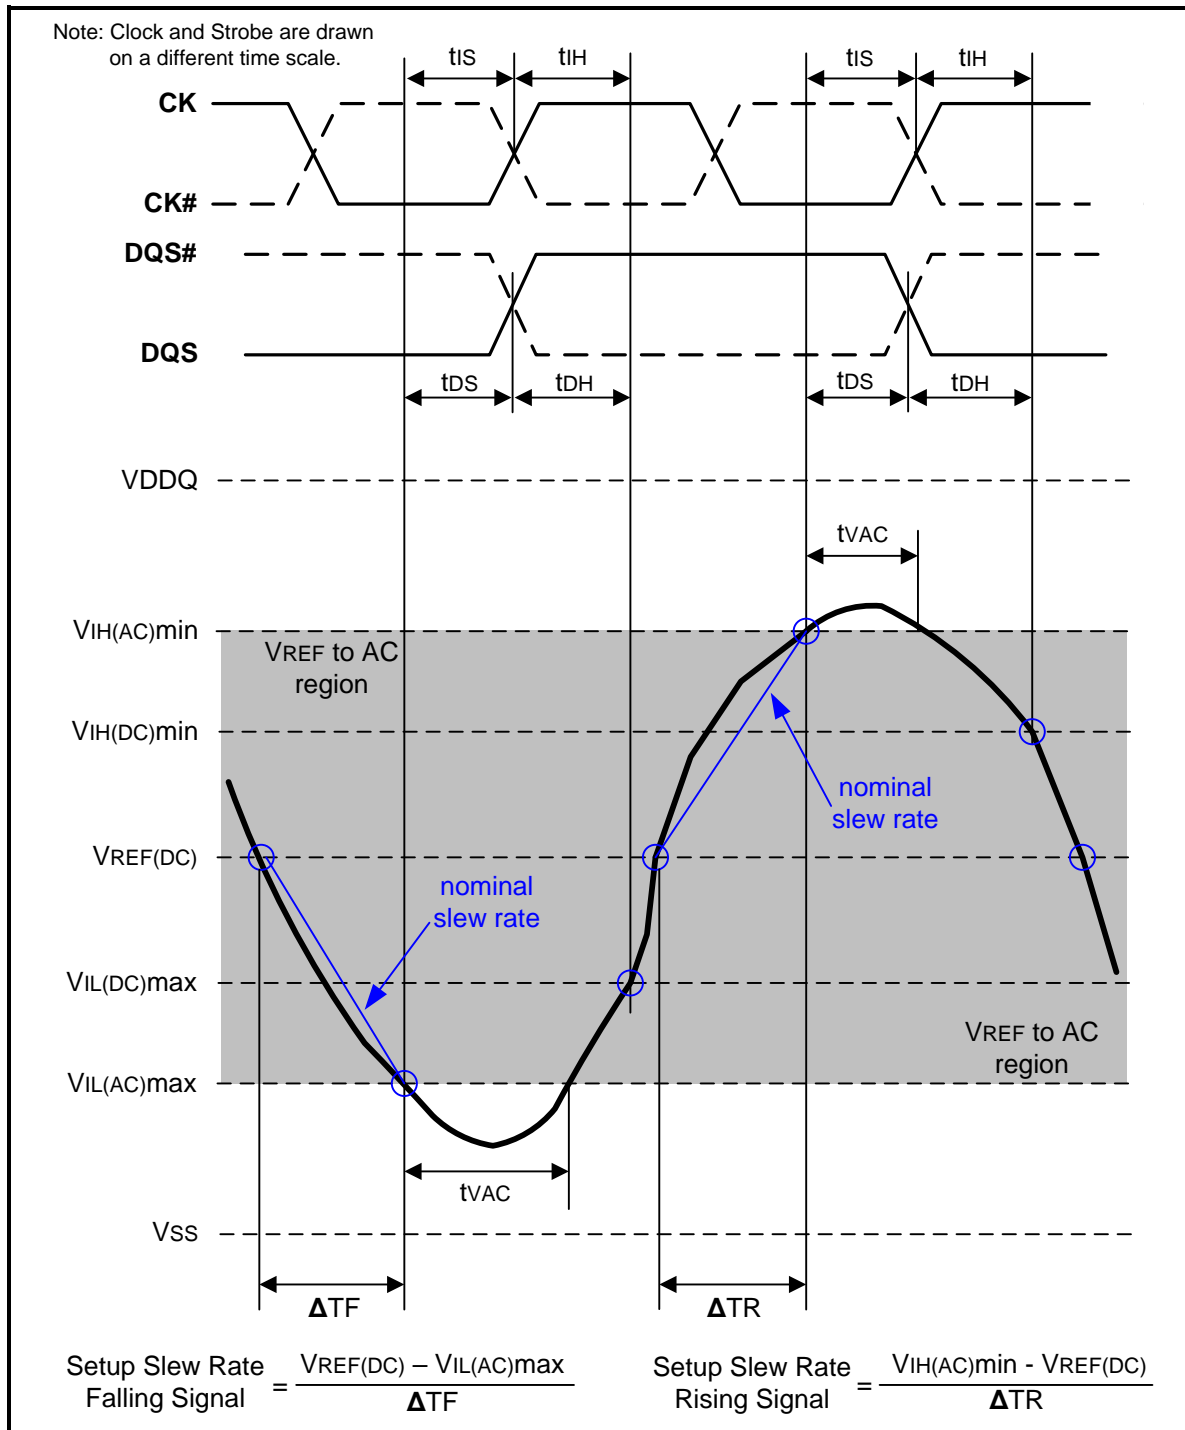
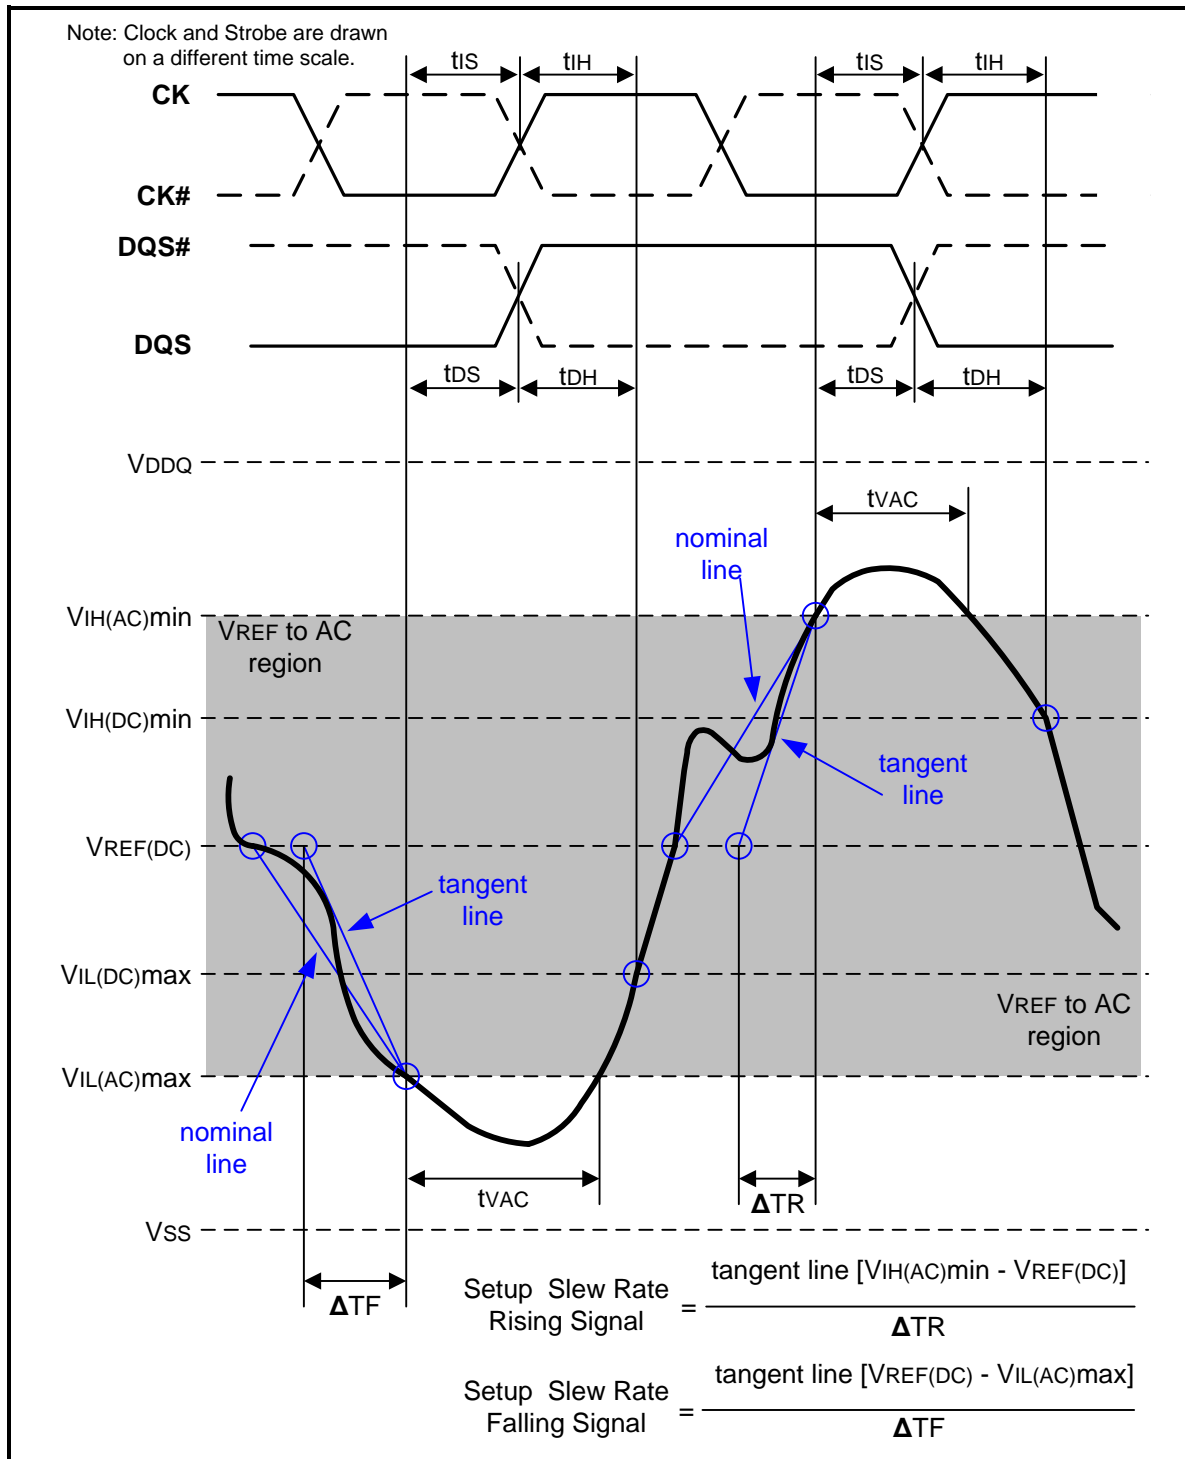

Figure 107 – Illustration of nominal slew rate and tvac for setup time tDS (for DQ with respect to strobe) and tIS (for ADD/CMD with respect to clock)
Figure 109 – Illustration of tangent line for setup time tDS (for DQ with respect to strobe) and tIS (for ADD/CMD with respect to clock)
Setup ( $t_{IS}$ ) nominal slew rate for a rising signal is defined as the slew rate between the last crossing of  $V_{REF(DC)}$  and the first crossing of  $V_{IH(AC)min}$ . Setup ( $t_{IS}$ ) nominal slew rate for a falling signal is defined as the slew rate between the last crossing of  $V_{REF(DC)}$  and the first crossing of  $V_{IL(AC)max}$ . If the actual signal is always earlier than the nominal slew rate line between shaded 'VREF(DC) to AC region', use nominal slew rate for derating value (see Figure 107). If the actual signal is later than the nominal slew rate line anywhere between shaded 'VREF(DC) to AC region', the slew rate of a tangent line to the actual signal from the AC level to  $V_{REF(DC)}$  level is used for derating value (see Figure 109).
Setup (tDS) nominal slew rate for a rising signal is defined as the slew rate between the last crossing of VREF(DC) and the first crossing of VIH(AC)min. Setup (tDS) nominal slew rate for a falling signal is defined as the slew rate between the last crossing of VREF(DC) and the first crossing of VIL(AC)max (see Figure 107). If the actual signal is always earlier than the nominal slew rate line between shaded 'VREF(DC) to AC region', use nominal slew rate for derating value. If the actual signal is later than the nominal slew rate line anywhere between shaded 'VREF(DC) to AC region', the slew rate of a tangent line to the actual signal from the AC level to VREF(DC) level is used for derating value (see Figure 109).